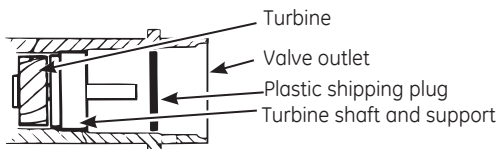

Figure 8
2. Make sure the turbine assembly spins freely in the "out" port of the valve, (see Figure 8).